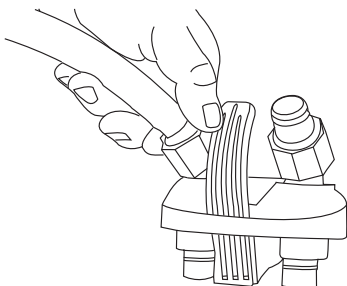

Fig 1
2. Push one end of the hose over the hose tail on the tap. Push it on as far as possible. Fig 1